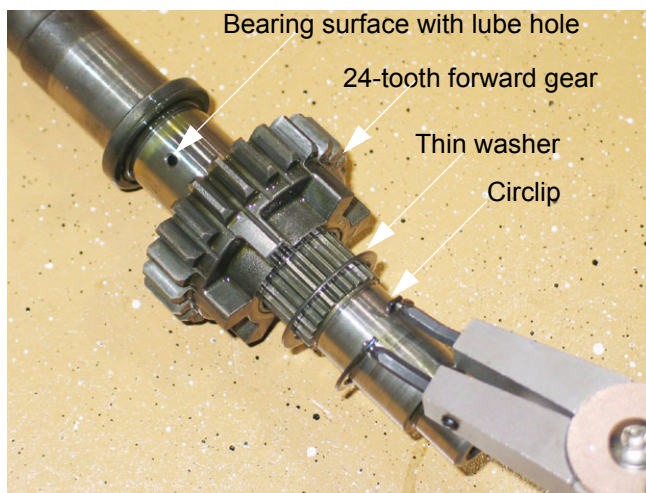

Figure 9.53
- 9.53. The 24-tooth forward gear, along with a washer (25.3mm I.D.X 33mm O.D.X 1mm width) is held on by a 25mm circlip. See Figure 9.53.